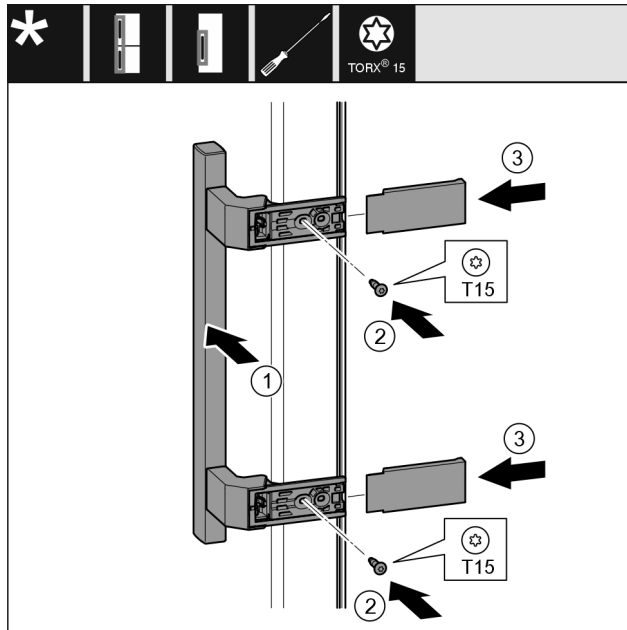

Fig. 43
- Place the handle Fig. 43 (1) on the opposite side.
- Tighten screws Fig. 43 (2) with screwdriver.
- Place the covers Fig. 43 (3) on the side and push them on.